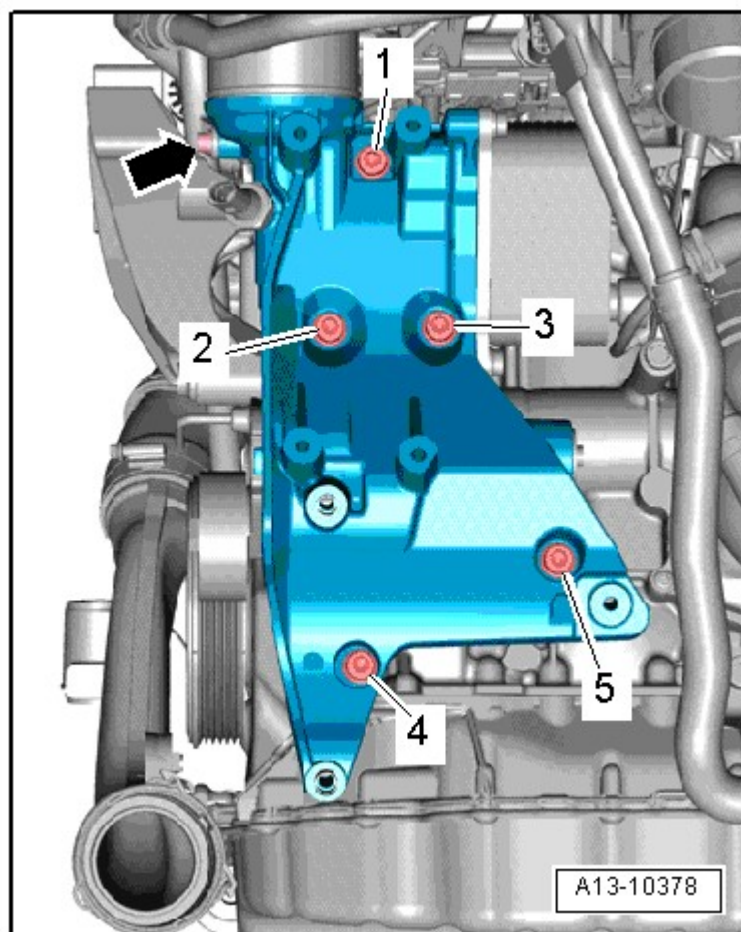

Fig. 2: Identifying Accessory Assembly Bracket Tightening Sequence
- Tightening sequence, refer to **Fig. 2**